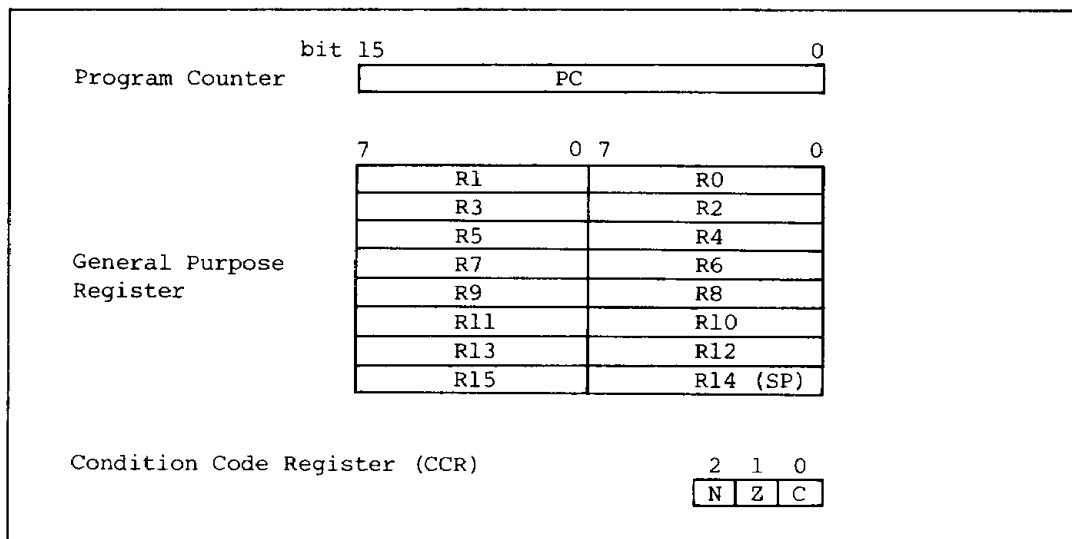

Figure 2-1 CPU Registers
The CPU contains sixteen 8-bit General Purpose Registers (R0-R15), a 3-bit Condition Code Register (CCR) and a 16-bit Program Counter (PC). The CPU register configuration is shown in Figure 2-1.